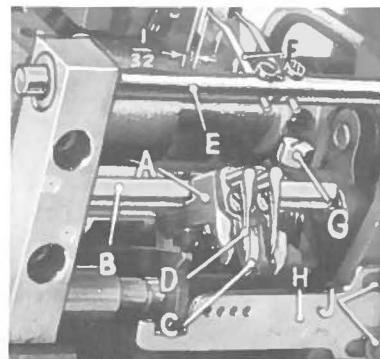
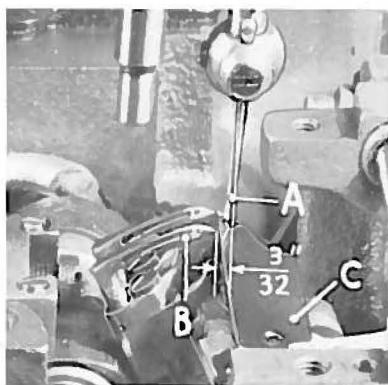
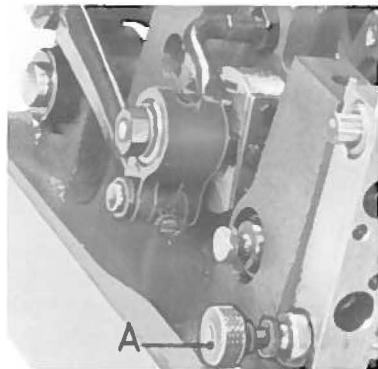

Fig. 6
Fig. 7
Fig. 8
Assemble looper holder with stationary needle guard (A, Fig. 6) onto looper holder frame (B) and adjust the stationary needle guard so it is just brought up to the needle. Assemble the adjustable needle guard (C) and looper (D) onto looper holder and set so that
Set looper holder frame (B, Fig. 6) so the distance between the centerline of the needle (A, Fig. 7) and point of looper (B) is $3/32$ inch when needle is at bottom of its travel. Accomplish this by loosening the hexagonal head clamp screw (G, Fig. 6) and moving the holder forward or backward as required and tighten screw. Looper gauge No. 21225- $3/32$ (C, Fig. 7) can be used advantageously in making this adjustment. When loopers move forward their points should pass the left sides of the needles as close as possible, without contacting.
With looper points toward the operator, the loopers should be seated in looper holder as far down as they will go. The loopers may be released to the threading position by pulling the looper holder frame locking pin (A, Fig. 8) to the left when the needles are at the high point of travel. They are returned to the operating position by merely pushing them back until they snap into the locking position. The right side of the looper (D, Fig. 6) should be at right angles to the centerline of the retainer holder shaft (E). Adjust looper thread eyelet (H, Fig. 6) by loosening two screws (J) and move stop from left to right to prevent loopers from being released to the threading position unless needle points are above the throat plate.
Insert the retainer (F, Fig. 6) in the retainer holder bar (E) with the tip of the notched end 1/32 inch from the needles when the needle bar is at the bottom of its stroke, the notch should be to the right and in a vertical position. Loosen screws in the retainer holder bar connection (B, Fig. 10) and rock the retainer bar so the underside of the retainer is as close as possible to the top of the looper, without contact. Turn the handwheel in the operating direction until the eye of the looper is directly below the point of the retainer. Then, move the retainer holder bar (E, Fig. 6) to the right or left so that the right side of the retainer is directly over the middle of the looper at the eye.
Draw looper and needle threads into the machine. When there are no threads in the machine the loopers may be released into the threading position by turning the handwheel until the needle bar is at high position and pulling the looper holder frame locking pin (A, Fig. 8) to the left. With threads in the machine, proceed in the same manner except hold the needle threads taut to prevent stitch formation while turning handwheel. Return loopers to operating position by pushing against looper holder frame; the needle bar being at its highest position.